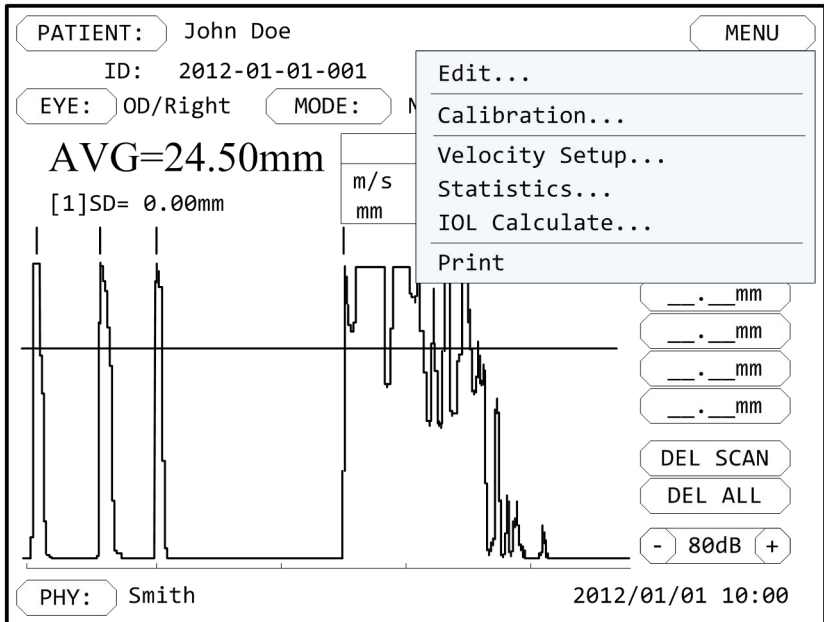
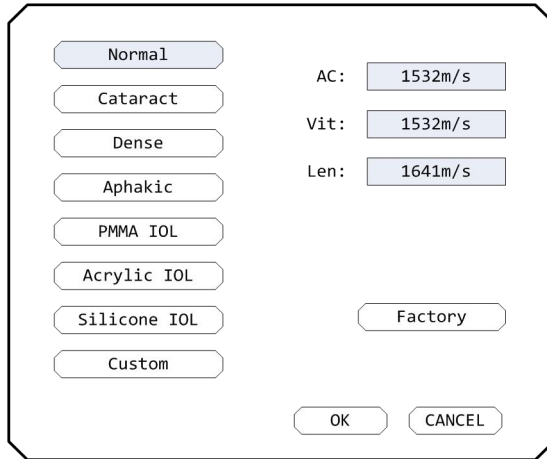
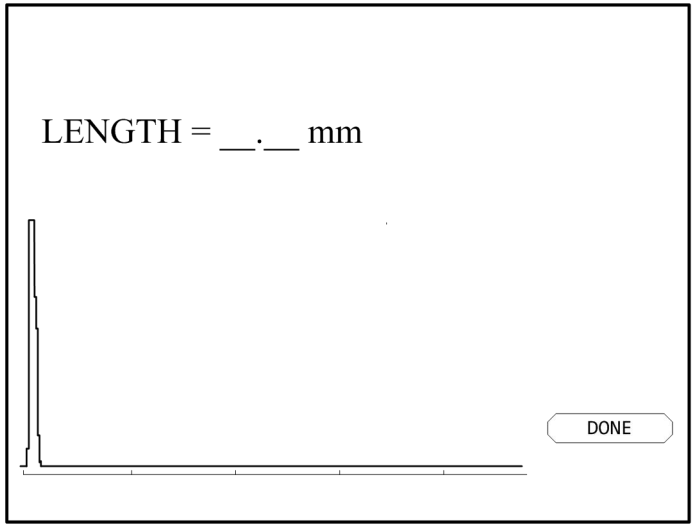

Figure 4-4 Menu of A-Scan
Figure 4-5 Velocity Setup Dialog Box
Figure 4-6 A-Scan Calibration Screen
2. Select the [Velocity Setup...] from the menu (Figure 4-4). The Velocity Setup Dialog Box (Figure 4-5) will be shown accordingly.
stainless steel Calibration Cylinder (Figure 4-6) for calibration.
1. Enter A-Scan Calibration Screen (Figure 4-6) by select the [Calibration...] item in the Menu of A-Scan (Figure 4-4).